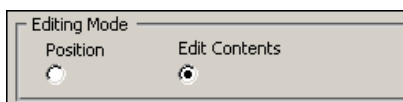

Figure 2-16. Edit Contents Mode
- **Edit Contents**—To modify the contents of a field, select the **Edit Contents** mode, as shown in Figure 2-16, then highlight the contents of the field and enter the new information.